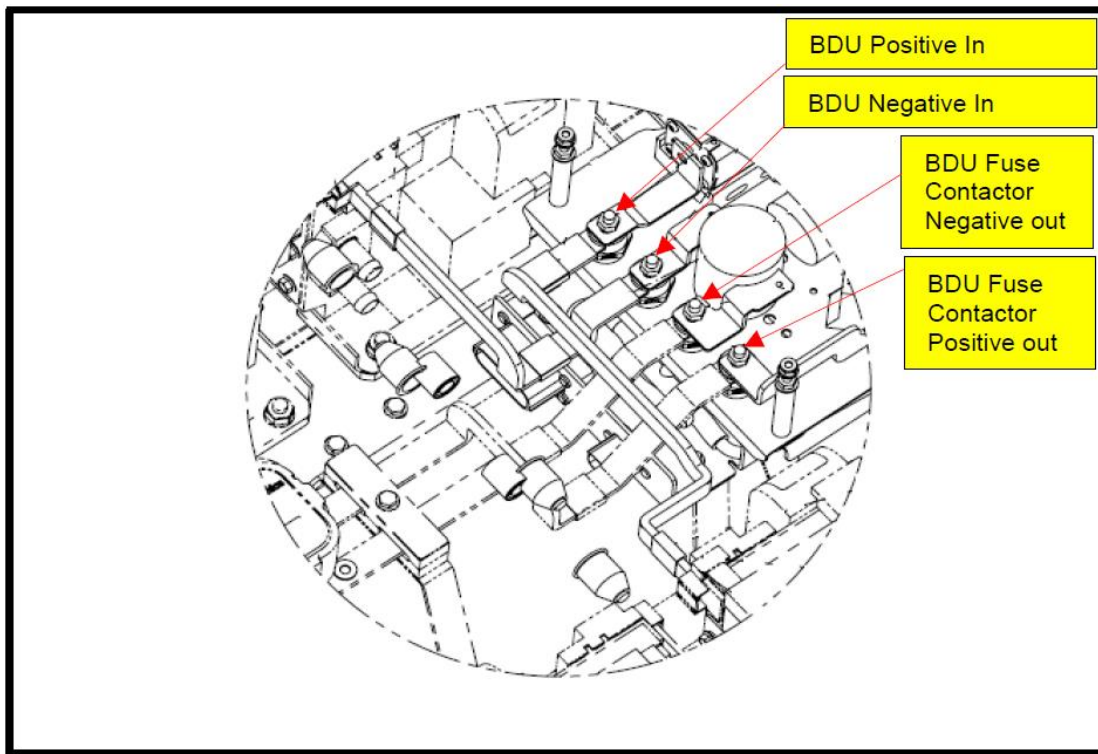

Figure 4: BDU and contactor location reference
1.13 Confirm that **NO** voltage is present between the positive out terminal on the BDU contactor and negative out terminal on the BDU contactor. See Figure 4.